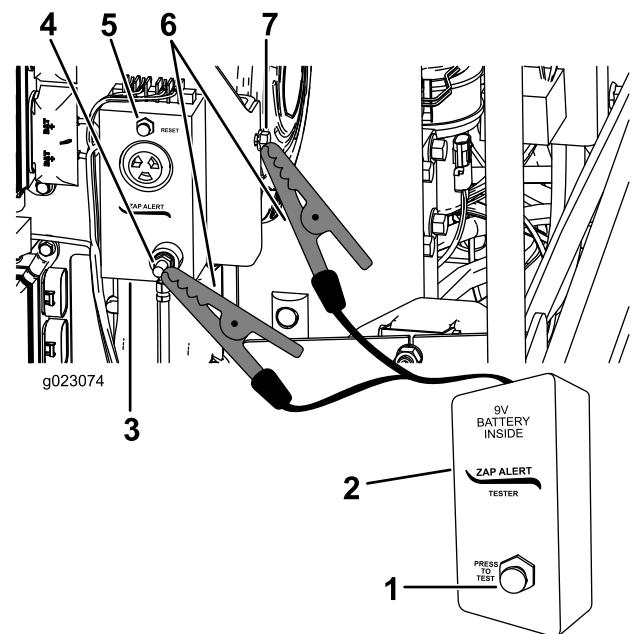

Figure 65
3. Connect an alligator clip from the Zap-Alert tester to the grounding stud on the Zap-Alert system (Figure 65).
5. Press the Test button on the Zap-Alert tester (Figure 65).
6. Press the Zap-Alert reset button to stop the alarm (Figure 65).